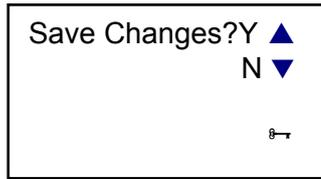
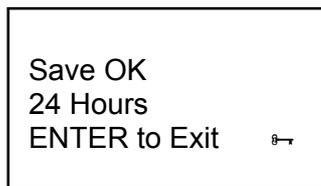

Figure 46. Display of save Accept Timeout
Figure 47. Display of Save OK message
- Press the '▲' or '▼' key to save the new Timeout or not as shown in figure 46. If 'Y' is selected the display will confirm if the Timeout has been saved OK as shown in figure 47. Upon pressing 'ENTER' (or if 'N' had been previously selected) the display will return to the previous protected mode menu.